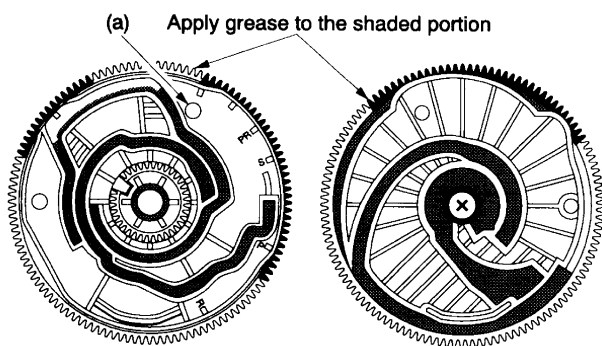

Fig. 2-1-53
6. Apply grease on a new cam gear on the shaded portion as shown in Fig. 2-1-53 and the shaft of the main base.
8. Push the cam lever (1) and the pin (2) (loading slider) in the direction shown by the arrows (A) and (B).
9. Mount the cam gear at the angle which the small hole (a) on the cam gear aligns with the hole on the mechanical deck. (Refer to Fig. 2-1-53.)